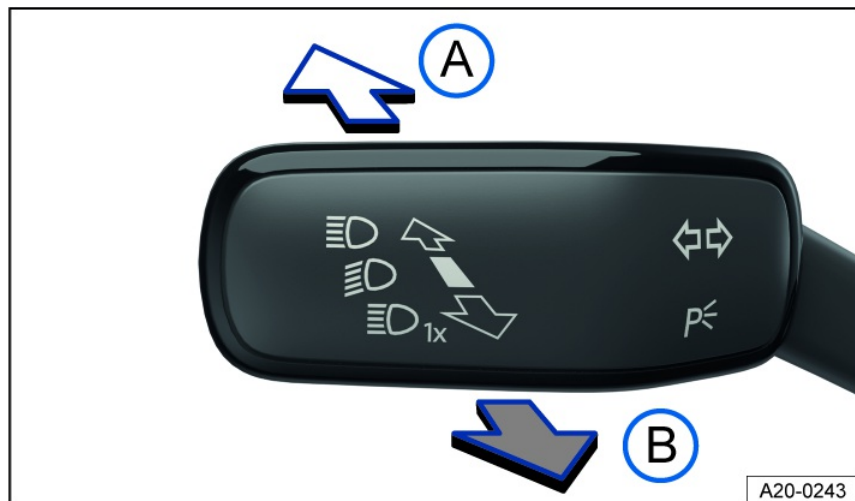

Fig. 74 On the left side of the steering column: turn signal and high beam lever.
2. Move the turn signal and high beam lever from the center position to the following position *fig. 74*: